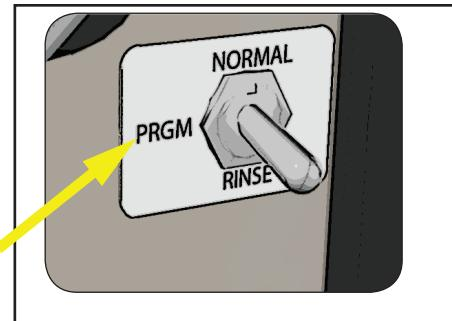

Figure 2
1. Press buttons 1-5-9-10 in sequence. (Figure 2)